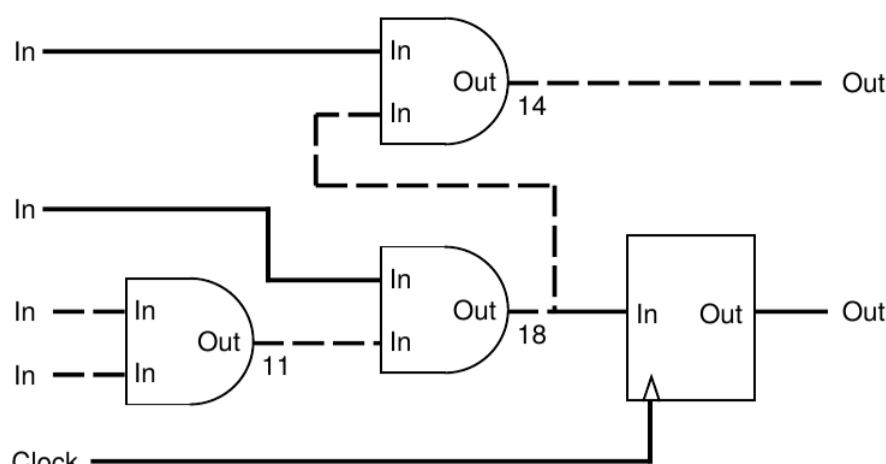

Figure 1: The critical path (dashed line) takes 43ns to settle
- The *signal delay* introduced between two synchronous nodes must be smaller or equal than the clock period so there is enough time for nodes to become stable. In Figure 1, the round-ended boxes are asynchronous nodes whereas the square boxes are synchronous nodes. The delay introduced on the dashed path is 43ns and exceeds the given clock period of 30ns.